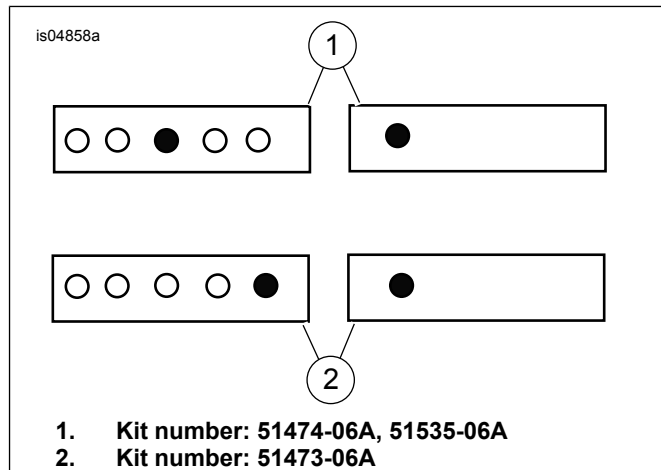

Figure 4. Grab Strap Installation
5. See Figure 4. Install new grab strap with washer and nut and tighten nut to 11–18 N·m (8–13 ft-lbs).